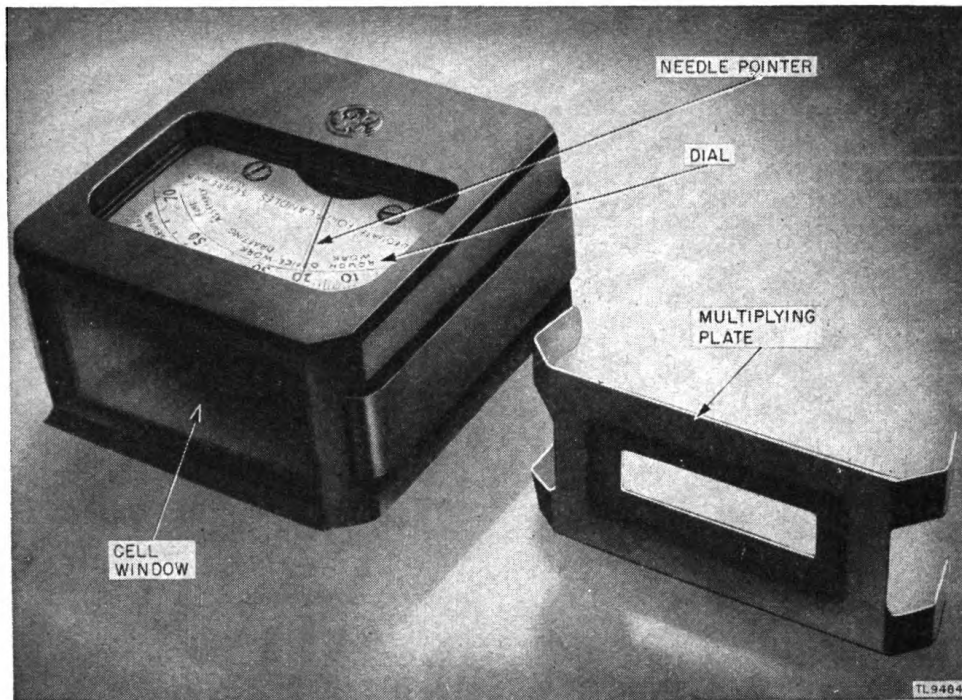

Figure 3. Light meter with multiplying plate.
*c.* MULTIPLYING PLATE (fig. 3). The multiplying plate is used for readings above 75 foot-candles and is considered a part of the unit. This thin metal plate has four clamps designed to fit the beveled case of the meter. The rectangular slit through which light reaches the cell is recessed to form a light trap and to prevent extraneous light from interfering with the reading. The multiplying plate clips over the light-sensitive cell when